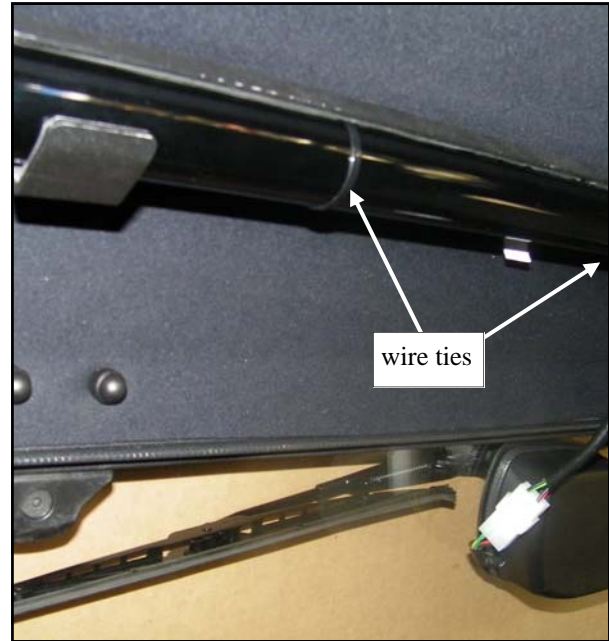

Fig. 1.3 (view from driver's seat)
1.3 Connect the four loose push-on terminals to the white block terminal on the wiper motor. Match the colored wires with each other (red to red, etc.). Per fig. 1.3, run the wire harness up and then left towards the driver's side and wire tie it two places (approximately 10" apart) to the upper ROPS tube as shown.